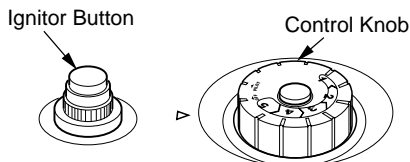

Figure 22 - Control Knob In The OFF Position, Models VP16TA, VN18TA, VP26TA, & VN30TA
3. Turn thermostat control knob clockwise ↻ to the OFF position (see Figure 22 or 23 for your model).
5. Turn thermostat control knob counter-clockwise ↻ to the PILOT position. Press in thermostat control knob for 5 seconds (see Figure 22 or 23 for your model).